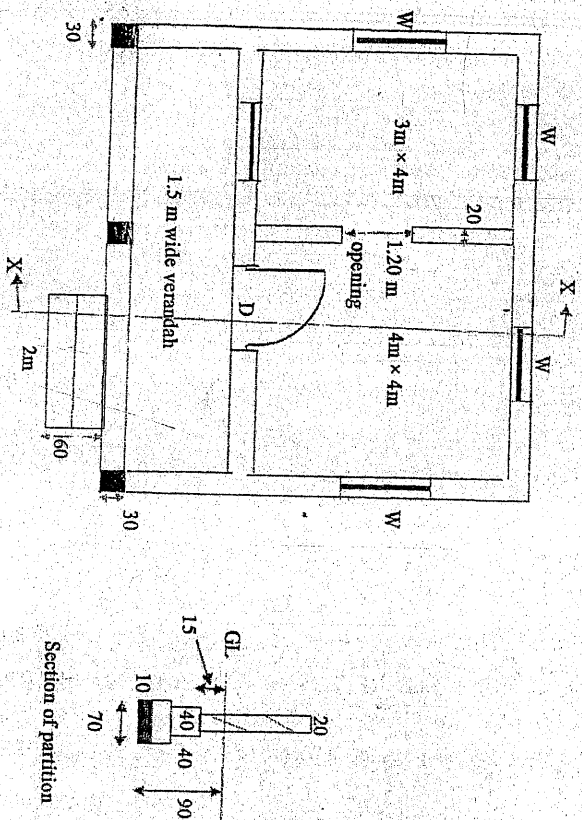

Figure 1
8. Calculate the following items of works from the attached drawing of building Figure 1. [5×4]
8. Prepare detailed estimate of the item of work form the building drawing (figure 1) attached herewith: [4×5]